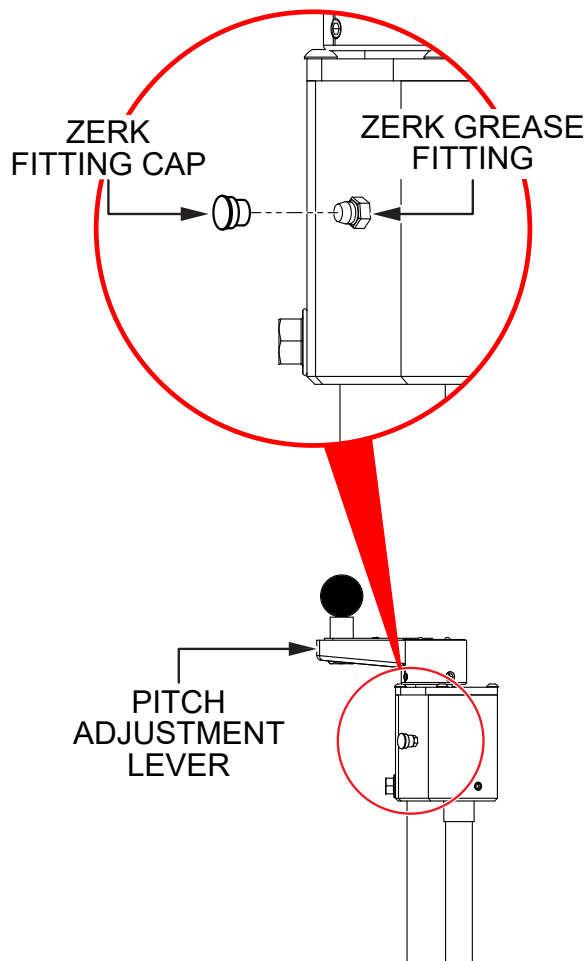

Figure 30. Pitch Tower Lubrication
1. Locate the Zerk grease fitting just below the pitch adjustment lever on either pitch tower (Figure 30). Remove the Zerk grease fitting cap and set it aside.